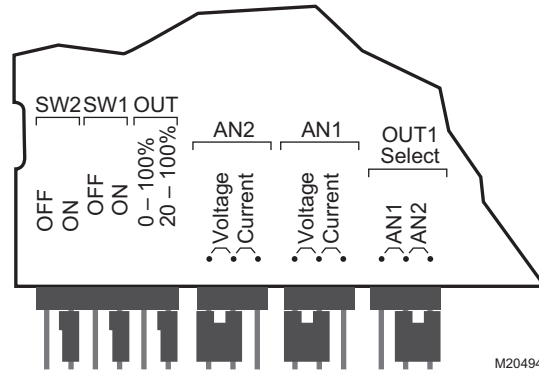

Fig. 39. C7232 default jumper settings for models with date code prior to 0309.
- On duct models with date code prior to 0309, remove the screw holding the board in place to view jumper settings on reverse. (See Fig. 39.)